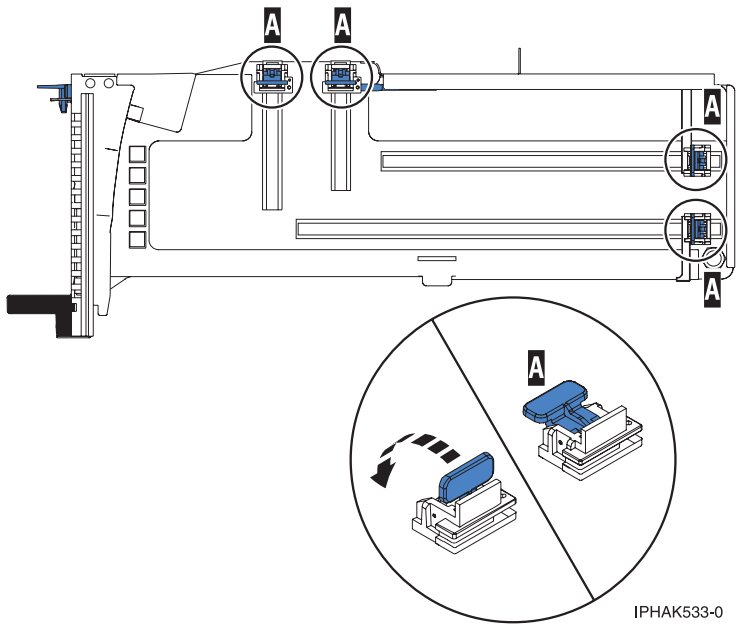

Figure 38. Adapter retainers
- b. Ensure that all of the adapter retainers (A) have been pushed out to the edges of the cassette to allow the placement of the adapter. See Figure 38 on page 56.